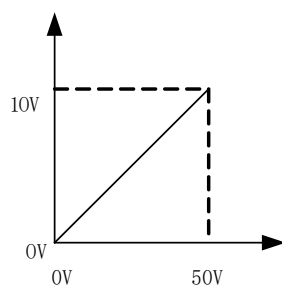

Figure 4-14 Corresponding relationship of given voltages in separate mode
3. The corresponding relationship of given voltage in separate mode is shown in Figure 4-14;